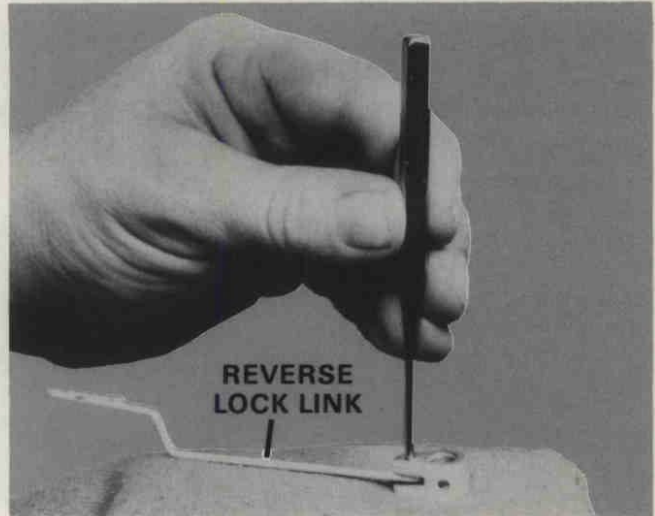

Figure 9. Removing Spring Pin Securing Reverse Lock Link.
E. Slide out intermediate lever with two (2) bearings.
F. Drive out spring pin securing link to reverse lock release lever. Figure 9.